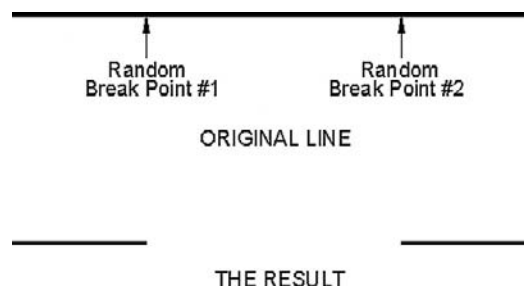

FIGURE 15.6
Step 3. Pick another nearby point on the line, and a section between these two points is removed (Figure 15.6).